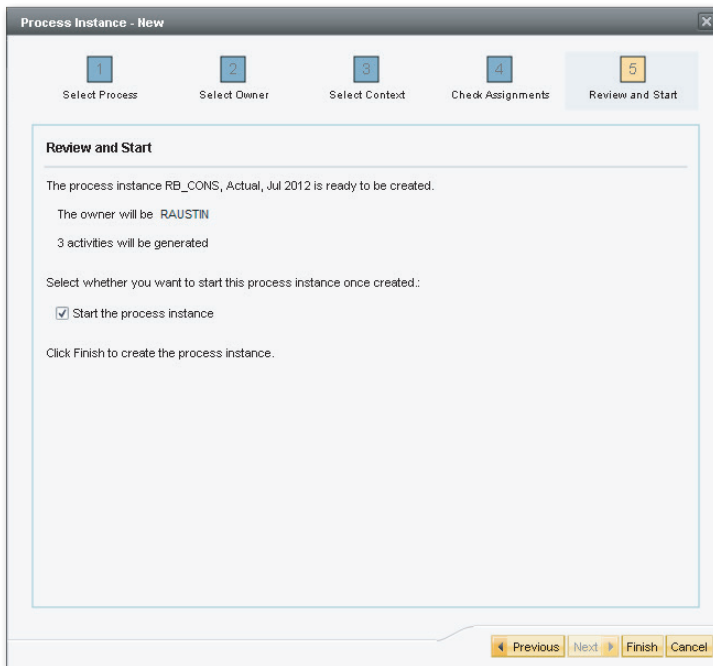

Figure 10.5 Creating a Business Process Flow Instance
The user who has been identified as the process owner or performer of the template can create a BPF instance from a BPF template. Instance creation is wizard-driven and consists of five steps (Figure 10.5), as follows:
5. The REVIEW AND START is the final step in the creation of the instance (Figure 10.5). Select the checkbox if you want to start the instance immediately. If this checkbox is not checked, the instance has a suspended status and must be manually started using the START menu option. Click on FINISH.